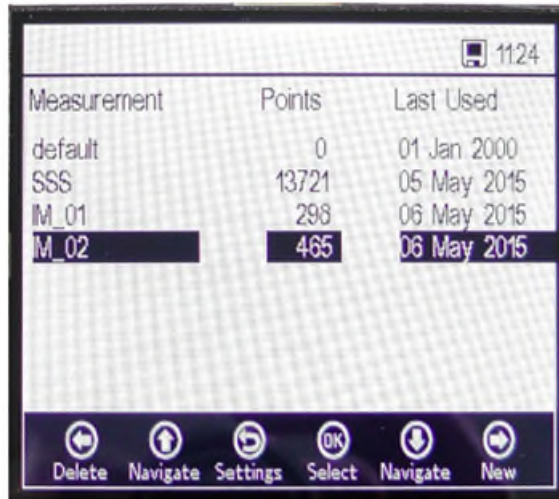

Figure 36. Measurement browser - List of measurement files
The screen will switch to the Measurement Browser automatically. A list will display showing the Measurement file name, the number of measurement Points stored in the respective file and the date the file was Last Used. Refer to Figure 36.
- ▶ In Figure 36, the **Monitor** symbol in the Status bar shows that Logging is turned on and measurement data are going to be stored.